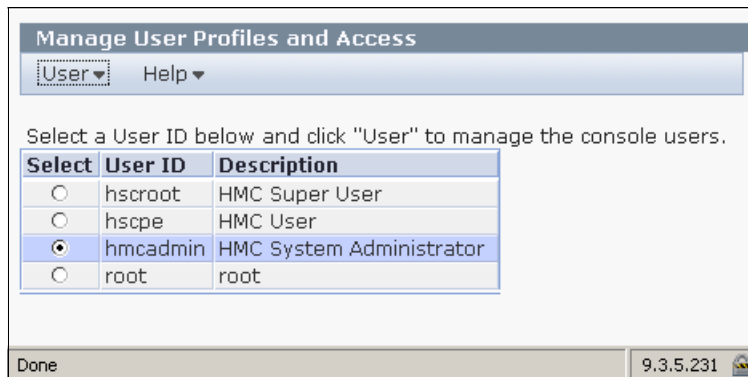

Figure 5-14 User Profiles user ID list updated
3. Click **OK** to create a new user. The new user ID is added in User profiles window as shown in Figure 5-14.